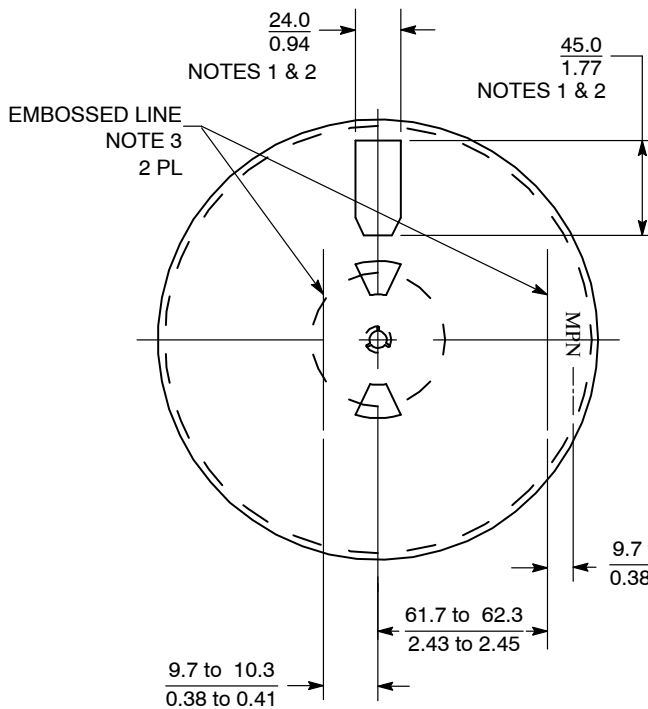

Figure 39. Front View of 178 mm (7.0 in) Reel
- If there are any flange openings on the front side of the 178 mm (7.00 in) reel they must be designed in locations so that two of the 41.3 mm (1.65 in) ON Semiconductor barcode labels can be applied parallel to each other as in Figure 39.
- Flange opening on the front and the back of the reel are a supplier option but must meet all of the requirements in Note 1. The preferred size for the 176 mm (7.0 in) reel is shown in Figure 39.
- The embossed lines on the reel are a option. If the lines are used they must be located as in Figure 39 and 40. They must be a minimum 38 mm (1.50 in) long. The thickness is a manufacturer's option and not to be used for inspection criteria.